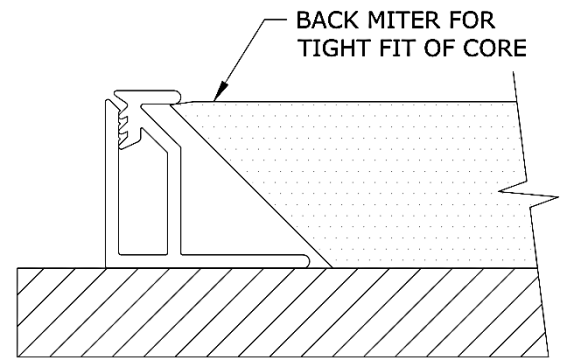

Fig. 5.1
2. Back cut / miter edges of fiberglass at 45° using a utility knife (fig.5.1)